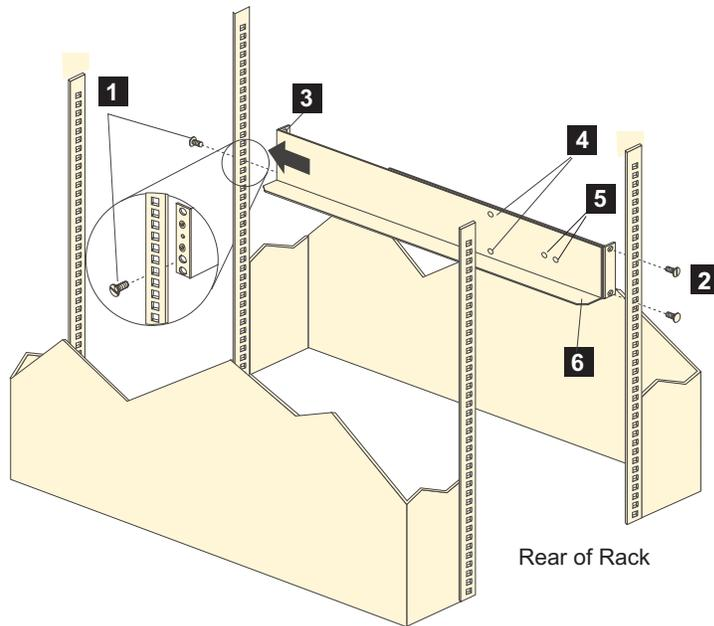

Figure 13. Installing the support rails
Note: Refer to Figure 13 on page 32 while performing these steps.
Note: The support rails are not marked as left or right. However, each rail can be correctly mounted on only one side of the rack cabinet. The rails should be mounted with the alignment pins at the back of the rack. Figure 13 on page 32 shows the installation of the left support rail.
2. Using a #2 Phillips screwdriver, remove the four screws from the rails (two screws in each rail). See **4** in Figure 13 on page 32. If you do not remove these screws, the storage subsystem will not fit securely.